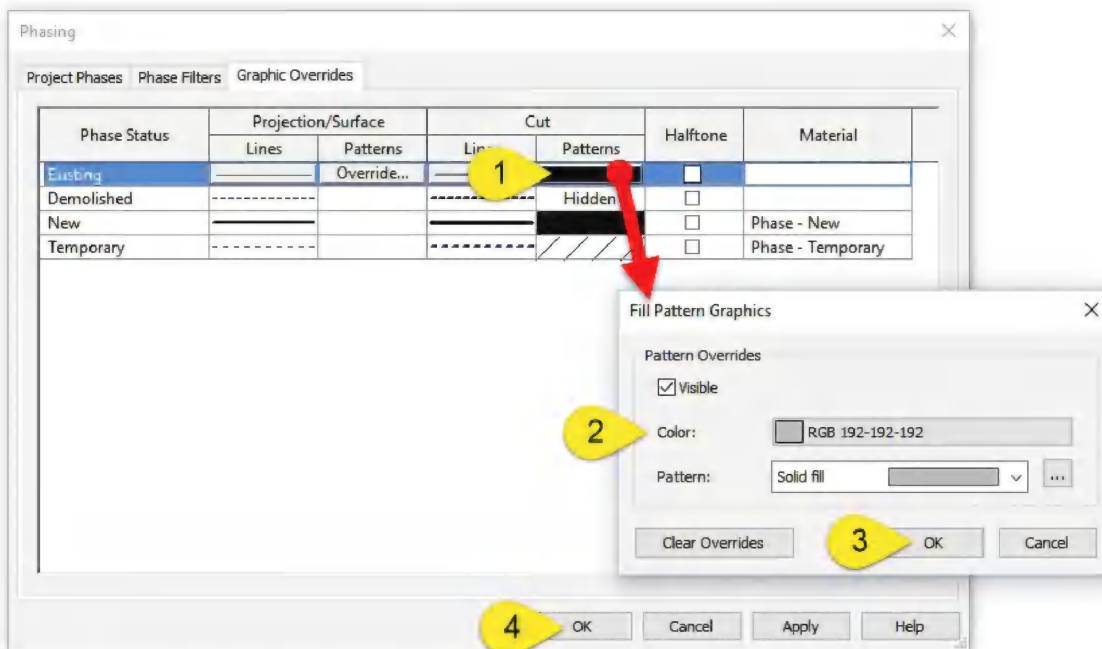

FIGURE 16-3.5 Graphic Overrides tab; Phasing dialog
13. Follow the steps shown in Figure 16-3.5 to change the fill color to gray.